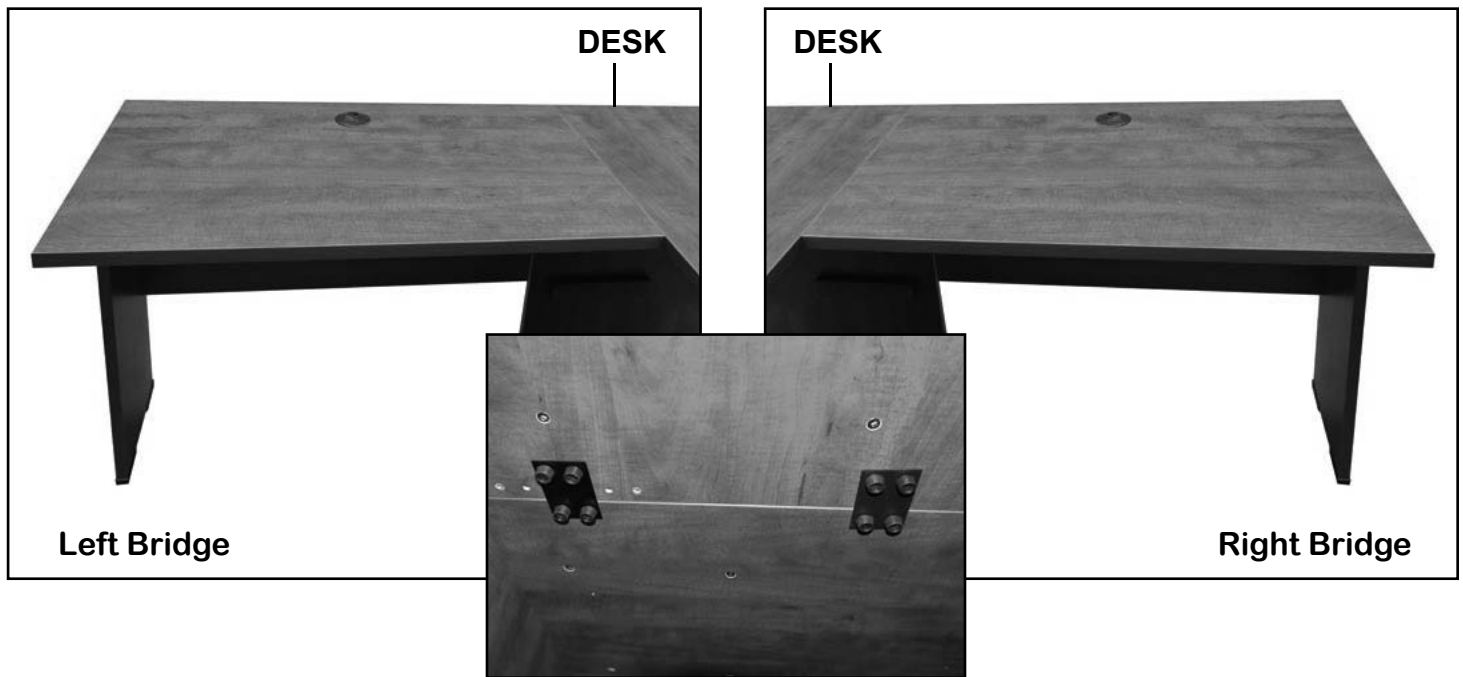

Figure 2
**STEP 3 :** Attach the Bridge to the Desk using 2 Flat Brackets(D) and 8 Thumb Screws(E). See figure 2.